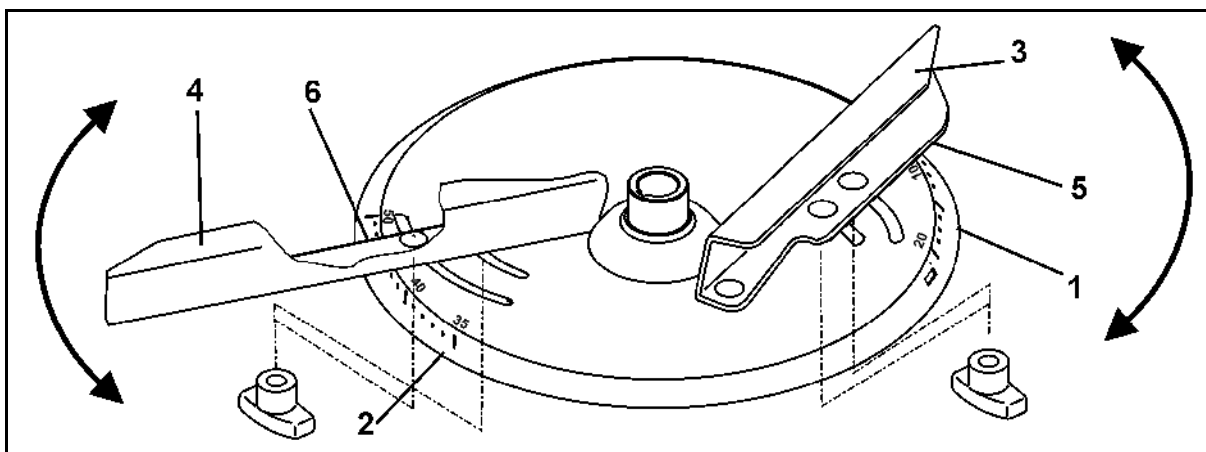

Fig. 69
2. Ditch spreading in accordance with fertiliser ordinance (Fig. 69):